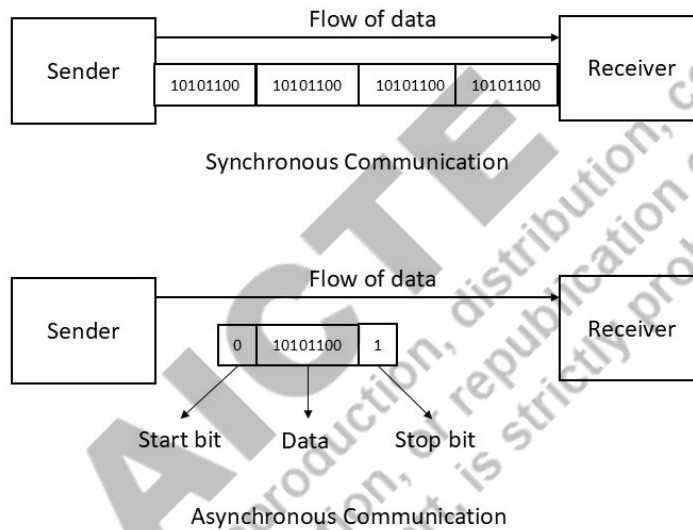

Figure 5.2: Synchronous & Asynchronous communication
- **Synchronous Serial Communication:** Data bits are transmitted in a continuous stream, synchronized by a clock signal shared between the sender and receiver as shown in Figure 5.2.
- For example, the ASCII character "A" (binary 0100 0001) is sent with a start bit (0) at the beginning and a stop bit (1) at the end as shown in Figure 5.2.
- When no data is being transmitted, the signal stays high (1), called "mark." The low signal (0) is called "space." Transmission starts with the start bit, followed by the least significant bit (LSB), the rest of the bits, and ends with the stop bit.